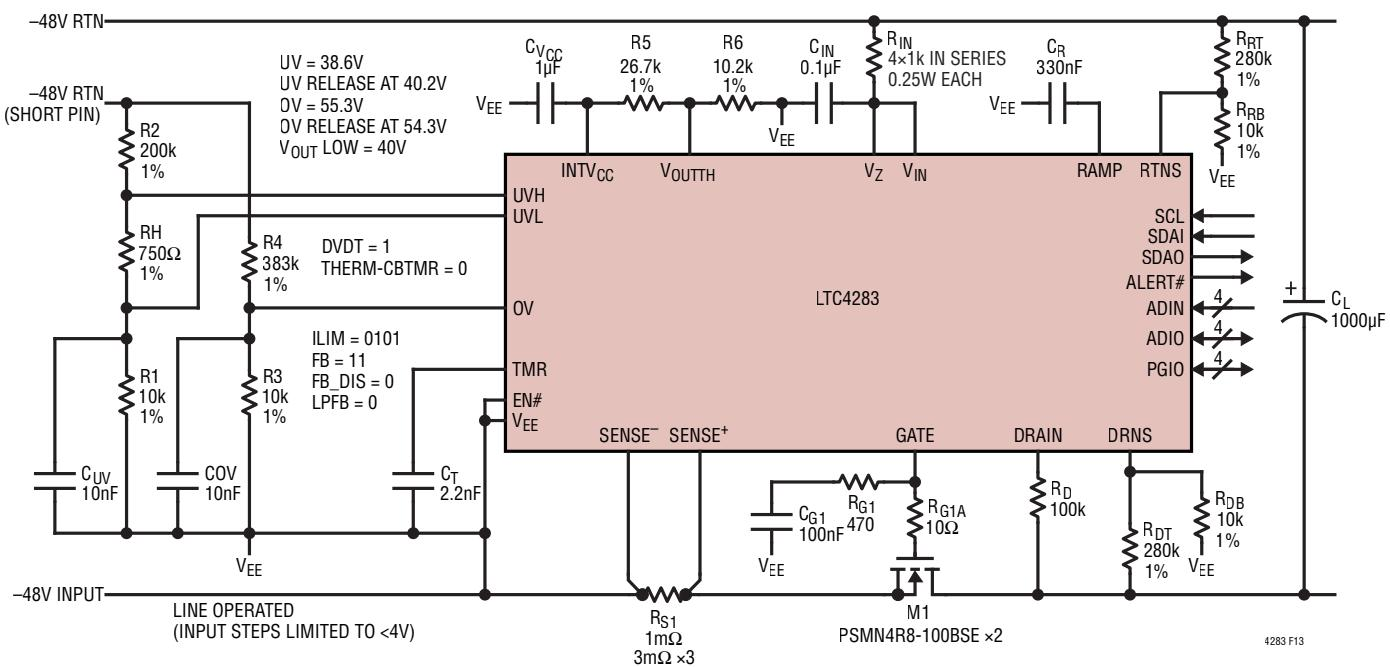

Figure 13. –48V/800W Hot Swap Controller with dV/dt Inrush Control
The second example is a line operated –48V system with supply tolerance of 10% (–43.2V to –52.8V) and maximum load power of 800W as shown in Figure 13. The load capacitance is specified as $C_L = 1000\mu\text{F}$.
INTV_{CC} (5V) and V_{EE} . The divider ratio is $5\text{V}/1.379\text{V} = 3.63$. A divider of 26.7k and 10.2k as shown Figure 13 gives a close enough ratio of 3.62.
Although it is possible to use a single, four-resistor (or three-resistor if UVH and UVL connected together) divider as shown in Example 1, Step 7, two independent dividers with 2 (OV) or 2 to 3 (UV) resistors in each divider make it easier to make non-interactive changes at a later time. The two dividers as shown in Figure 13 gives UV shutdown at 38.6V, UV release at 40.2V, OV shutdown at 55.3V and OV release at 54.3V, which covers the full input voltage range of this example. 10nF capacitors filter out noises on UVL and OV.